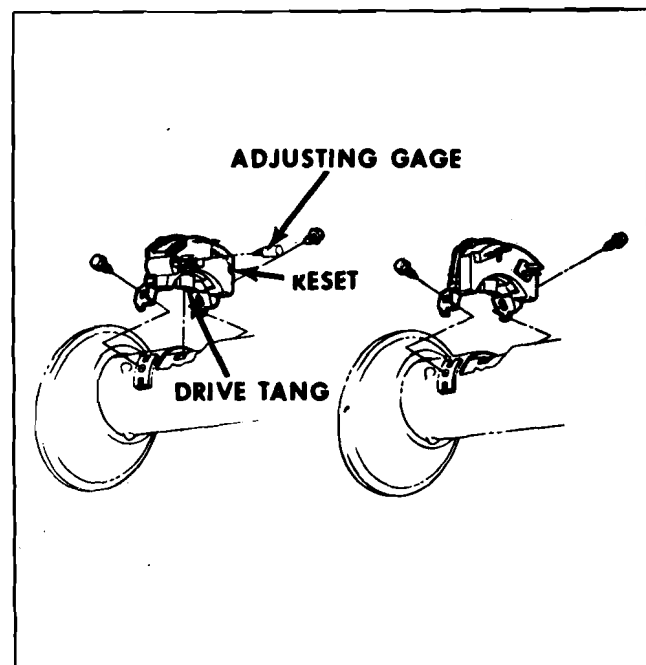

Fig. 12-34 Adjusting Back Up and Neutralizer
1. Position and hold the shift lever in low range while inserting the blade of the reset gage J 23056-2 into the RESET slot of the switch, Fig. 12-34, exerting sufficient pressure to insure full penetration (approximately $9/16''$) of the blade, and remove gage.